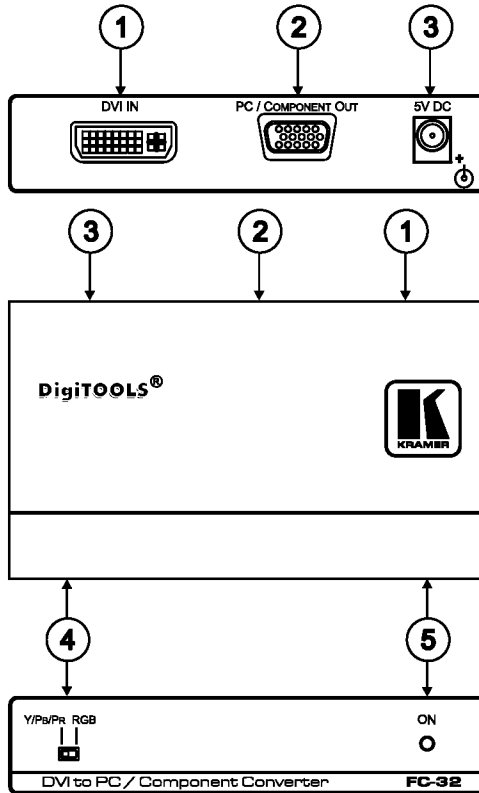

Figure 1: FC-32 DVI to PC/Component Converter Functions
Figure 1 and Table 1 define the unit.
3. Set the front panel switch (see *Figure 1*) to Y/PB/PR for a component acceptor or to RGB for a computer graphics acceptor.